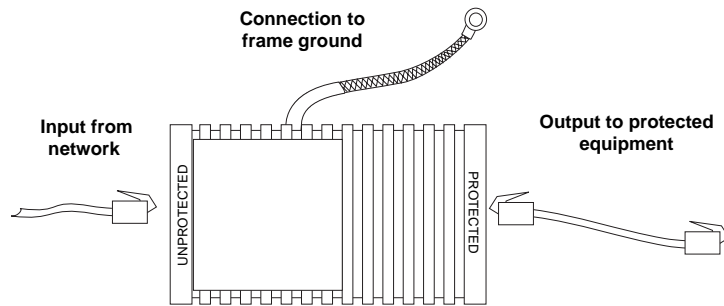

Figure 1. How to Connect the Model 552
**NOTE:** To ensure proper operation of the Model 552, make sure that your equipment is connected to the protected side of the Model 552. See Figure 1 below.